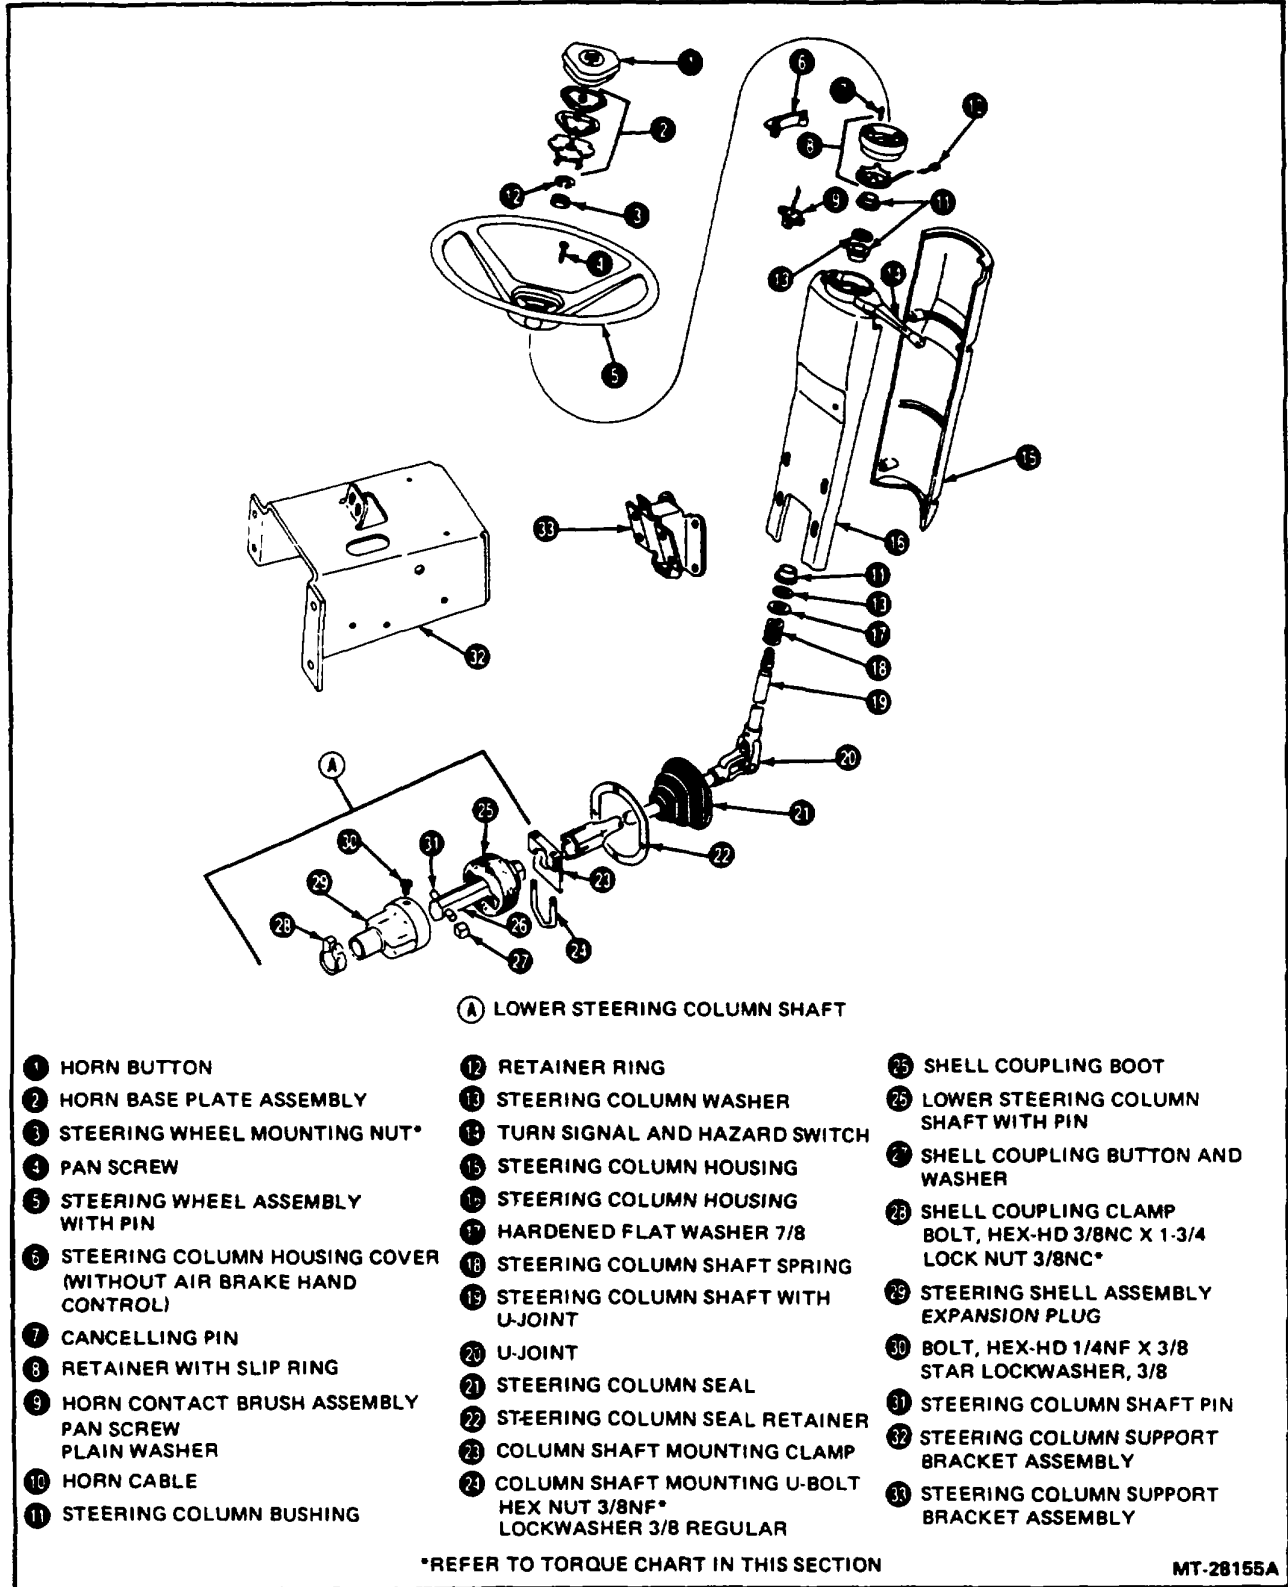

Figure 4 - Stationary Steering Column with Shell Coupling - Conventional Cab
Items 24 and 28, Figure 4.
(Refer to Figure4).
2. On vehicles with the shell coupling steering shaft assembly, remove the U-bolt clamp and separate the steering column assembly from the lower steering column shaft (Figure 4).